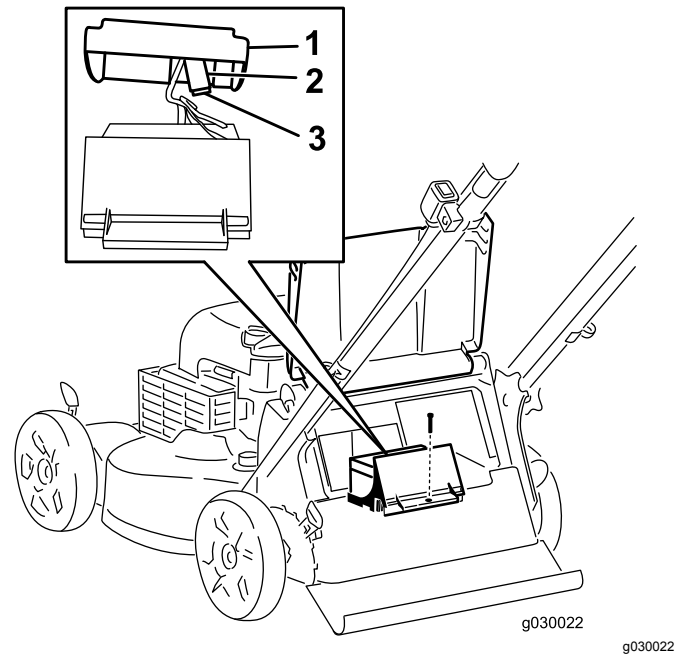

Figure 32
3. Remove the screw that secures the battery compartment, pull out the battery, and locate the fuse (Figure 32).
4. Replace the fuse in the fuse holder (Figure 32).